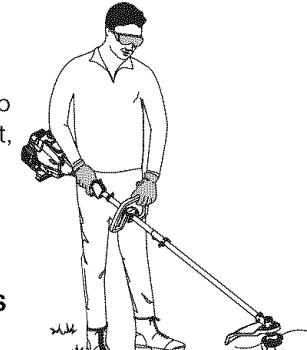

Fig. 8
3. Hold the unit in the operating position (Fig. 8). If necessary, reposition the D-handle to the location that provides the best grip.
Before operating the unit, stand in the operating position (Fig. 8). Check for the following: